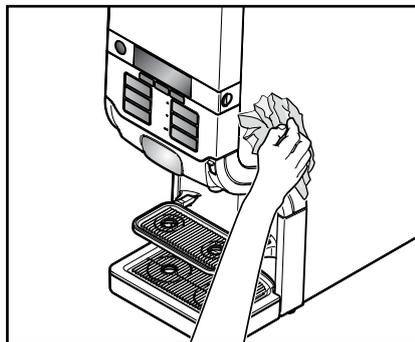

Fig. 50
6. Wipe down the exterior of the dispenser with a damp and clean cloth (fig. 50).